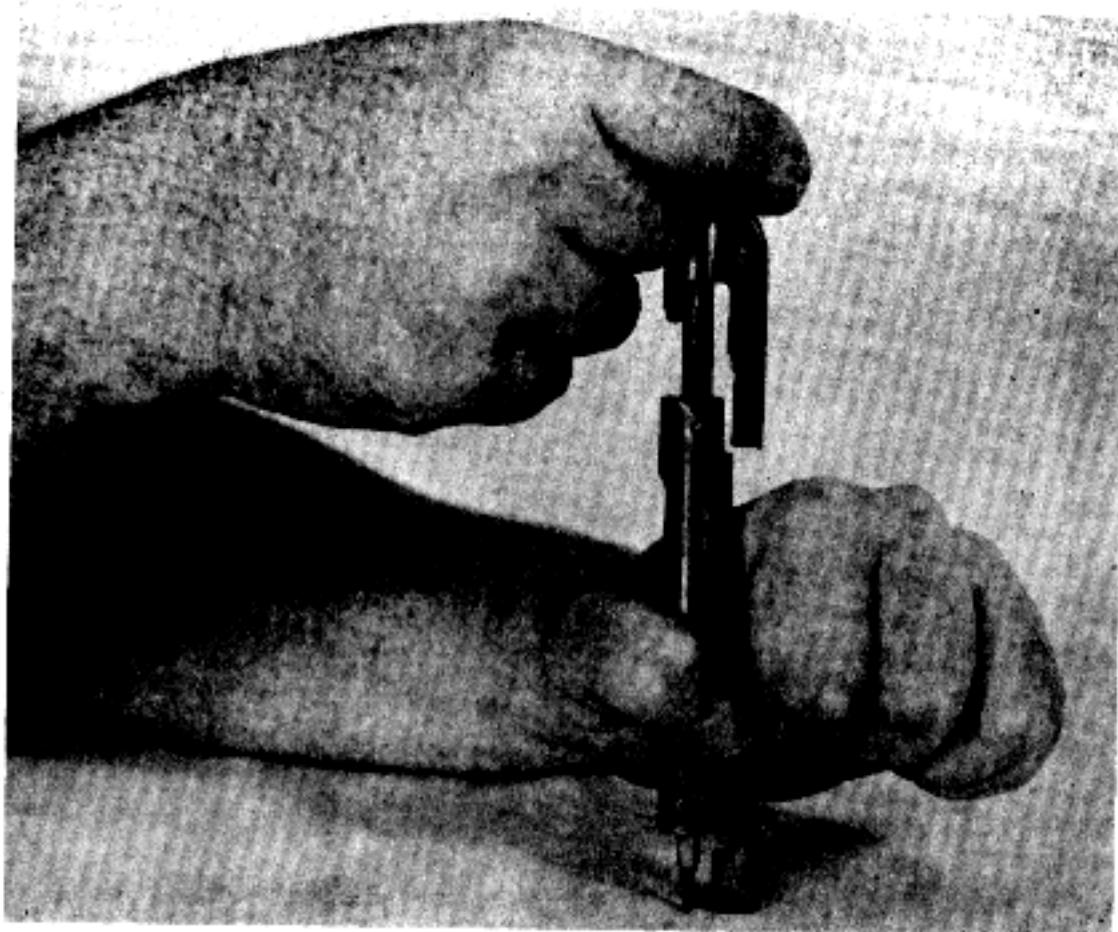
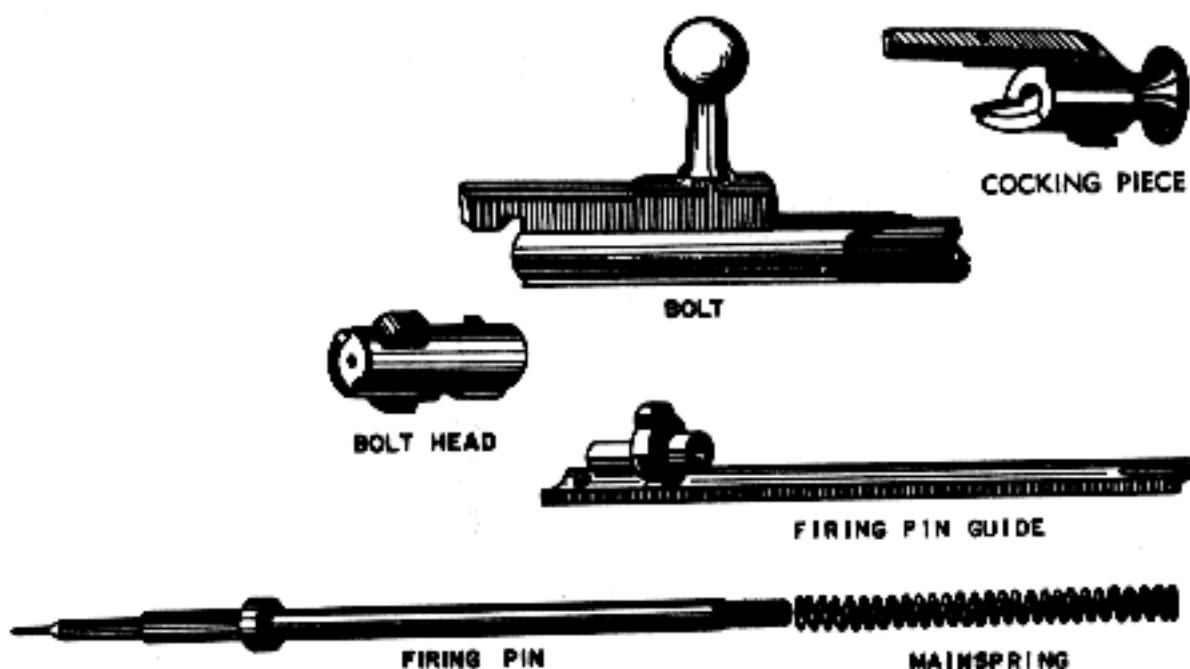

FIGURE 47. REMOVING COCKING PIECE.
FIGURE 48. BOLT ASSEMBLY COMPONENTS.
- (2) To disassemble the bolt, draw the cocking piece back and turn it to the left to relieve spring tension (fig. 46). Remove the bolt head and guide. Place the firing pin on a solid surface, push the bolt body down, and unscrew the cocking piece (fig. 47); then remove the firing pin and spring. The components of the bolt assembly are illustrated in figure 48.